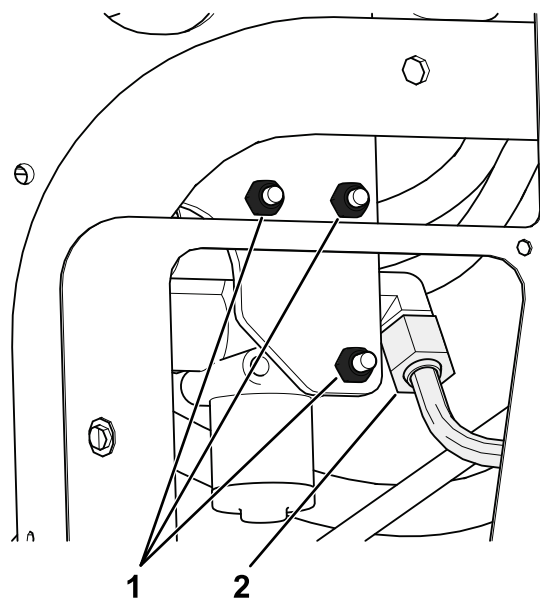

Figure 5
- A. Remove the 3 bolts and nuts securing the existing lift valve to the frame, and separate it from the frame to allow for removal of the T-fitting (340-94) as shown in Figure 5.